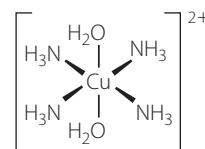

FIGURE 14.9 Diaquatetraaminecopper(II)
The addition of ammonia solution to an aqueous copper(II) solution results in the formation of an amine complex due to the replacement of water ligands with NH_3 , as shown in Figure 14.9. The resulting solution has a deep blue colour:
The addition of ammonia solution to the hydroxide precipitate discussed previously causes the precipitate to dissolve because the NH_3 replaces the hydroxide ion ligands, resulting in the complex shown in Figure 14.9: